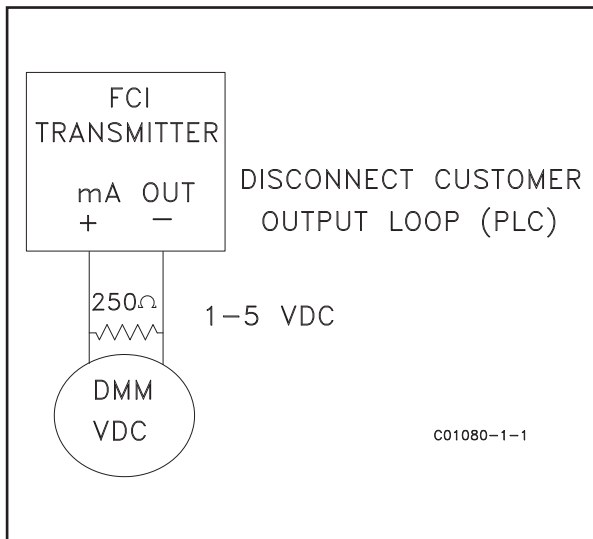

Figure 20
- A. To read 1 to 5 volts, disconnect both output loop wires and connect a precision 250 ohm resistor across the output terminal (figure 20). Then connect the DMM to read voltage drop across the resistor.